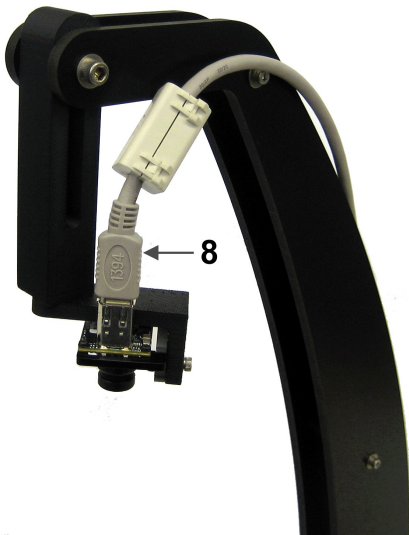

Figure 19: 2DBB camera connections.
9. Connect the FireWire connection on the camera, shown in Figure 19, to a FireWire port on the PC.
7. Connect the FireWire connection on the camera, shown in Figure 19, to a FireWire port on the PC.